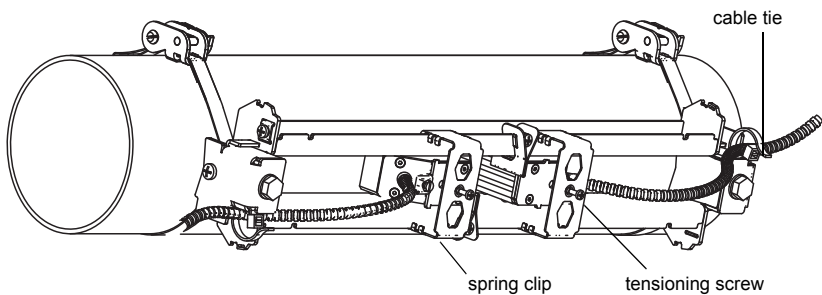

Fig. 7.35: Transducers in the rail
- Slide the spring clips on the transducers (see Fig. 7.35).
- Fix the transducer cables with the cable tie to protect them from mechanical strain (see Fig. 7.35).